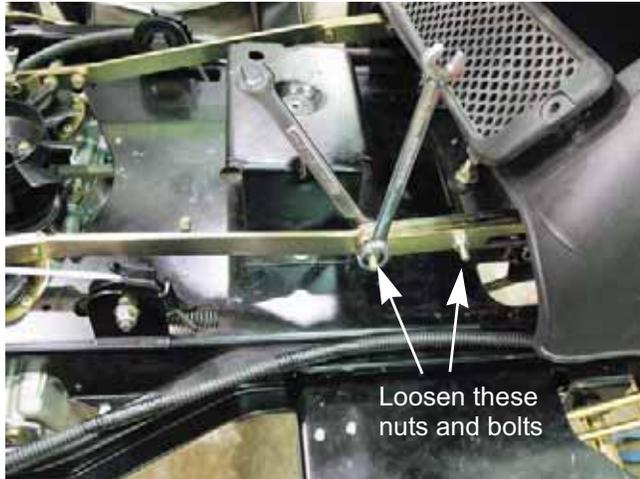

Figure 6B.19
16. Loosen the two nuts and bolts in the center of the drive control linkage on the side that needs adjusted . See Figure 6B.19.